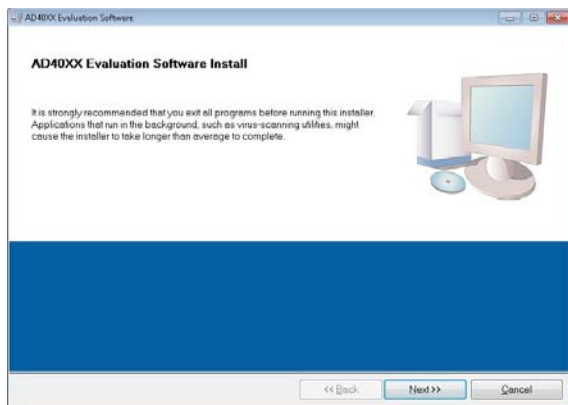

Figure 3. Evaluation Software Install
1. Launch the evaluation board software installation by clicking the **setup.exe** file. The software installation window opens as shown in Figure 3.